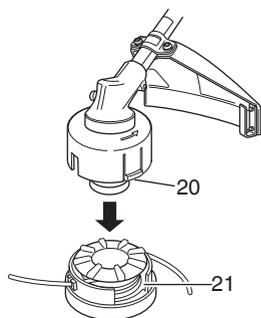

Fig. 25
(6) Place the cover over the case so that the cap locking tabs (20) on the cover meet the long holes (21) on the case. Then push the case securely until it clicks into place. (Fig. 25)